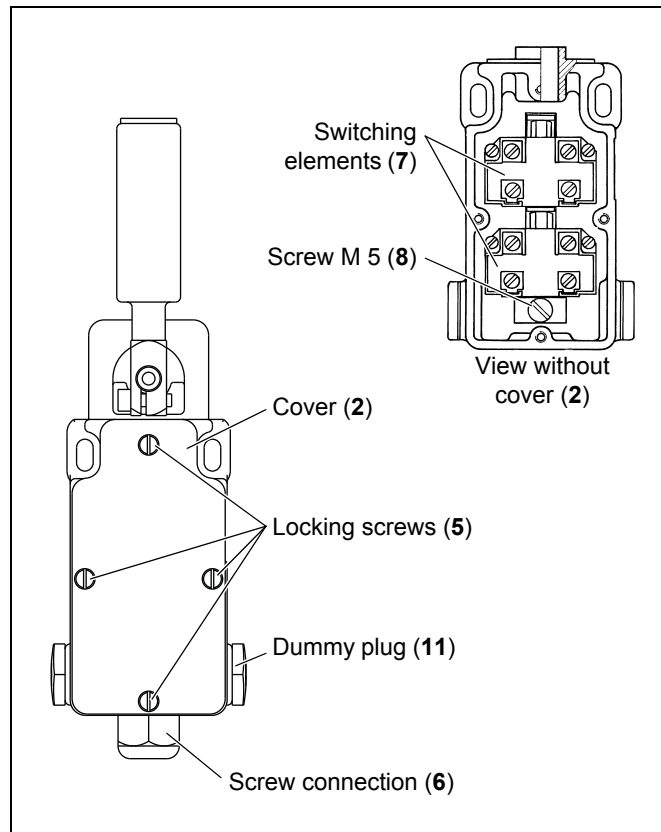

Fig. 5-5: Connecting belt misalignment switch
1. Open the cover (2) by loosening the four locking screws (5) (s. *Abb. 5-5*).
2. Detach the electrical connections on the switching elements (7) and the protective conductor connection on the screw M 5 (8).
3. Turn the screw connection (6) open and pull the connection cable out of the belt misalignment switch.
4. Unscrew the two screws M 6 (4) and remove the belt misalignment switch from the conveyor structure.